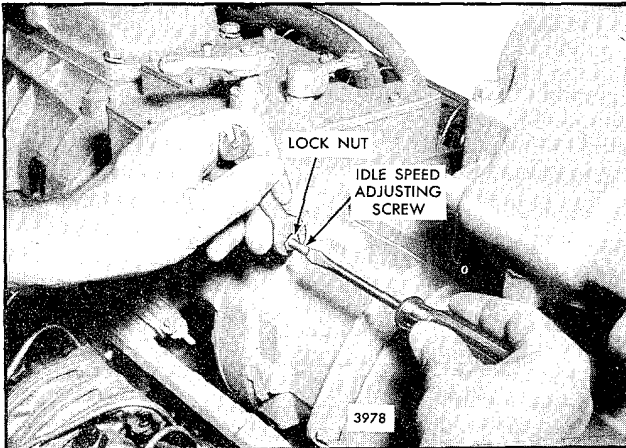

Fig. 9 - Adjusting Engine Idle Speed
1. With the engine running, at normal operating temperature and with the buffer screw backed out to avoid contact with the differential lever, turn the idle speed adjusting screw (Fig. 9) until the engine is operating approximately 15 rpm below the recommended idle speed.